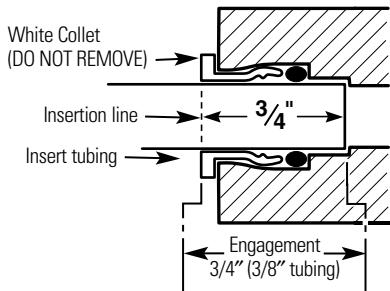

Fig. 7
- Push the tubing firmly into each fitting on the manifold until the line is flush with the fitting collar. (If the tubing is removed, re-cut the end, measure, mark and re-insert). Tubing must be fully inserted to avoid leaks (Fig. 7). **(To remove tubing: Depress and hold white collet; pull tubing out to remove.)**